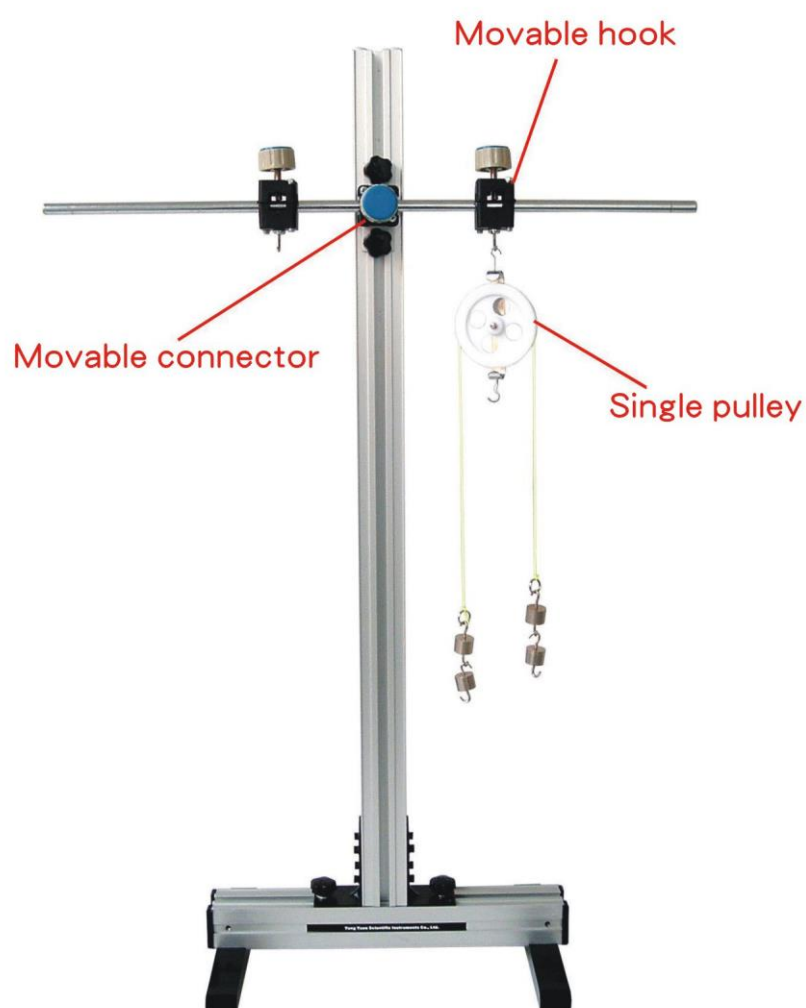

Figure 3
1. The experimental setup is shown in **Figure 3**.